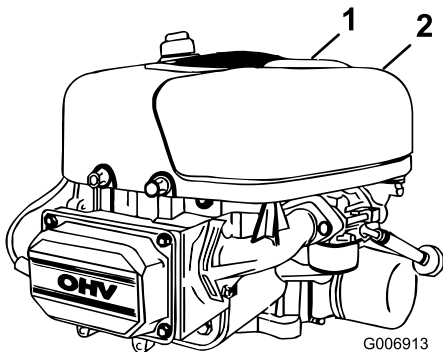

Figure 20
6. Pull up on the air cleaner cover handle and rotate it toward the engine (Figure 20).